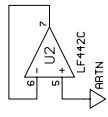

Figure 64: Analog PCB schematic (ref. 700-1276, Rev. F, SH2)
- *Figure 64: Analog PCB schematic (ref. 700-1276, Rev. F, SH2) on page 48*